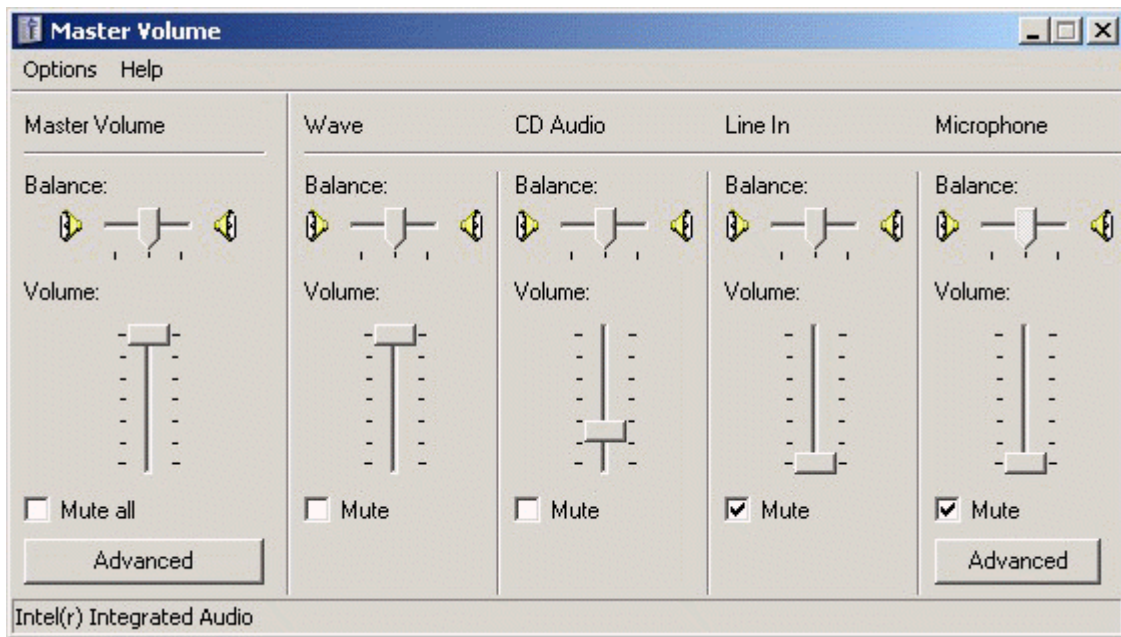

Figure 4.8 Typical setup of a soundcard output mixer in Windows XP
- 5) In 'Audio device setup' dialog click the button 'Control panel' to open the Windows 'Master Volume' dialog box, which is shown on Fig. 4.8.
- 7) Mute Line In and Mic channels in dialog 'Master Volume' (Fig. 4.8)